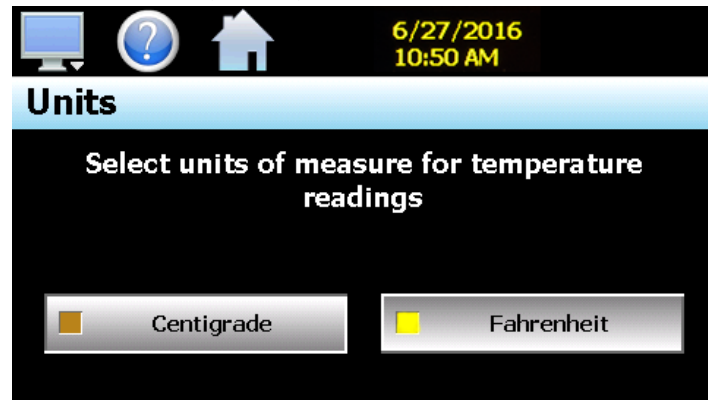

Fig. 53: Select Temperature Unit
- The temperature unit with a yellow box in its button is the currently active unit. To change the unit, select the desired unit (Fig. 53)